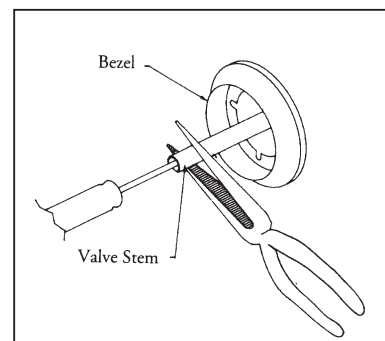

FIG. 18 Low Setting Adjustment
4. While holding the valve shaft with pliers, insert a thin, flat tipped screwdriver into the shaft and while viewing the burner adjust to a minimum stable flame (Fig. 18).